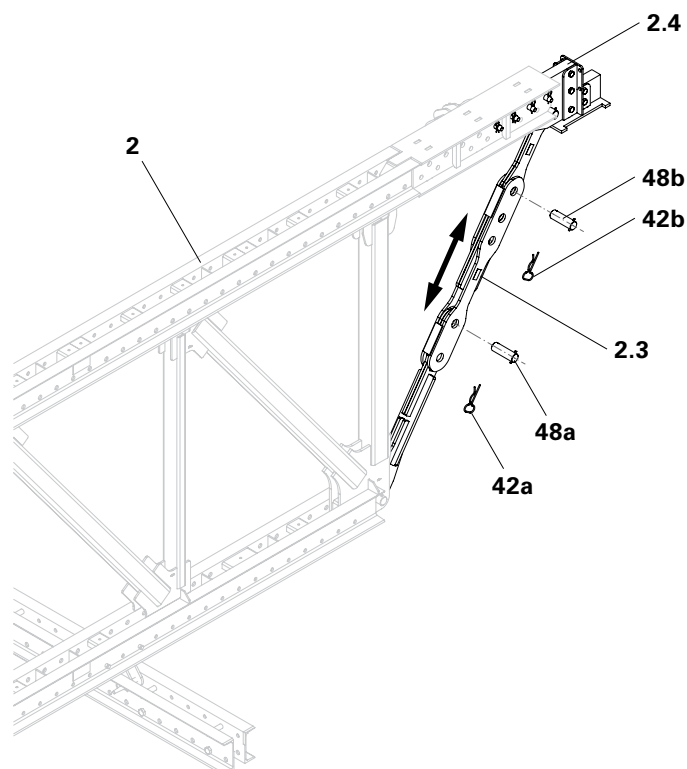

Fig. A1.12
1. Remove cotter pins (42a) and (42b). (Fig. A1.12)
4. Insert bolts (48a) and secure with cotter pins (42a). (Fig. A1.12)